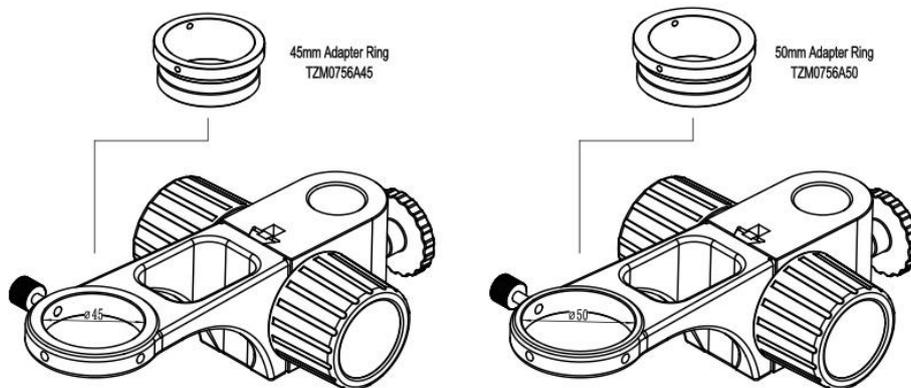

Figure 5 TZM0440 series' Bracket Adapter
**Bracket Adapter** (code **Add**) used for brackets with different mounting apertures and is sheathed in the middle of **MZO**. **dd** is the diameter of the bracket. Current available **Adds** include **A50** and **A45**. The installation method of the **Bracket Adapter** and bracket is shown in Figure 5.